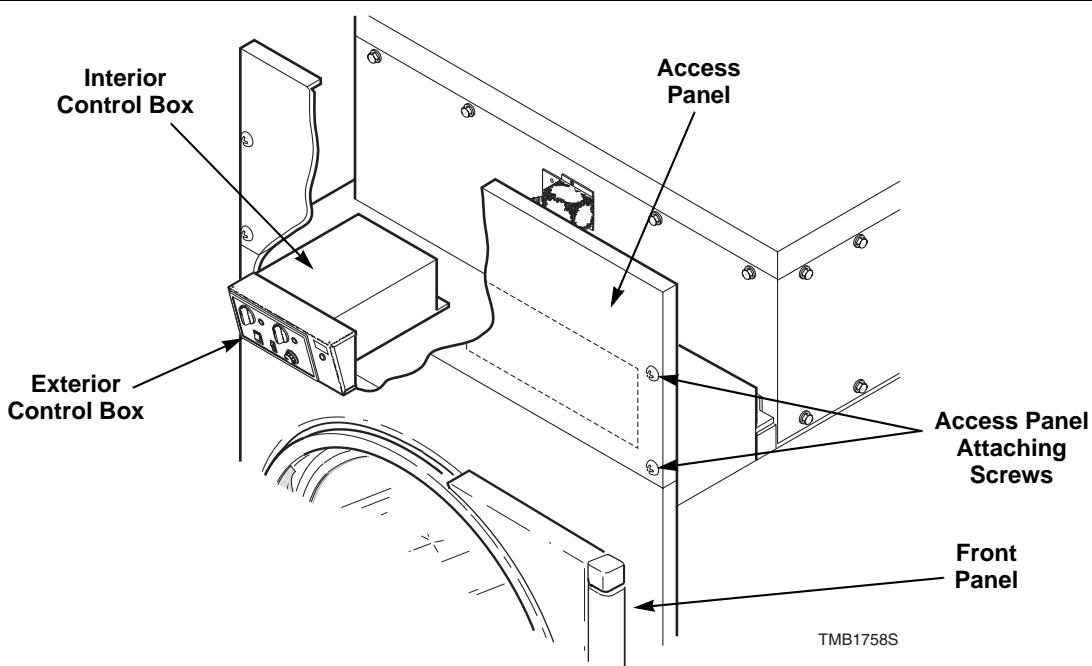

Figure 1
Refer to *Figure 1*.
- b. Lift access panel off top edge of front panel and pull panel forward. Refer to *Figure 1*.
- a. Remove four screws holding access panel to cabinet. Refer to *Figure 1*.
- a. Remove four screws from interior control box cover. Refer to *Figure 1*.
- a. Remove screws from interior control box cover. Refer to *Figure 1*.
- b. Remove screws from exterior control box cover and remove cover. Refer to *Figure 1*.
- c. Remove light through exterior control box. Refer to *Figure 1*.
- c. Remove screws from external control box and remove cover. Refer to *Figure 1*.